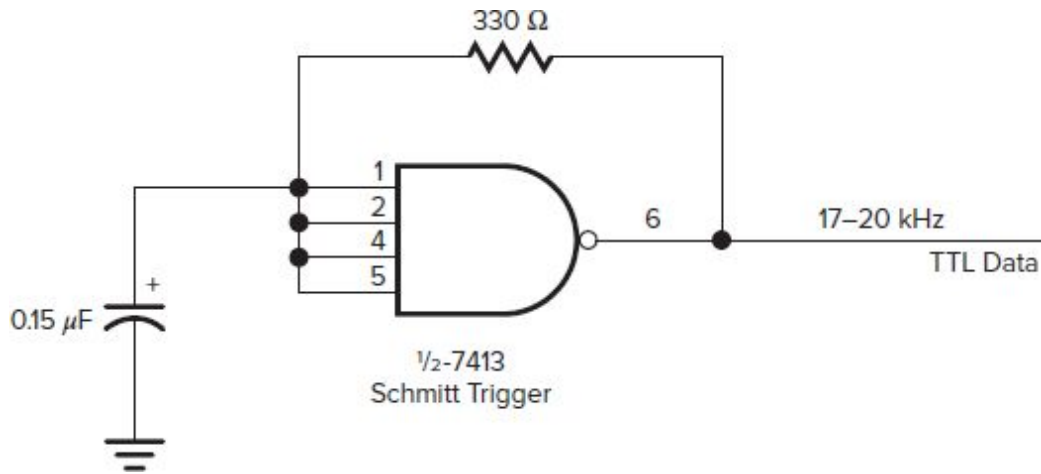

Fig. 10-9 A TTL Schmitt trigger used as a binary data source.
generator to produce the sine-wave carrier. The binary signal can be simulated by any standard digital source. If a second tunable digital function generator is not available, use the simple circuit shown in Fig. 10-9.
2. Turn on the function generator and set the sine-wave carrier level in the primary of the SBL-1-1+ to $0.5 V_{p-p}$ at a frequency of 300 kHz. Apply dc power to the remainder of the circuit. If you are using a separate function generator for the digital signal, set its frequency to 20 kHz. Use the TTL output from the function generator. If you build the circuit in Fig. 10-9, its frequency is already set to approximately 17 kHz if you used the *RC* values specified.